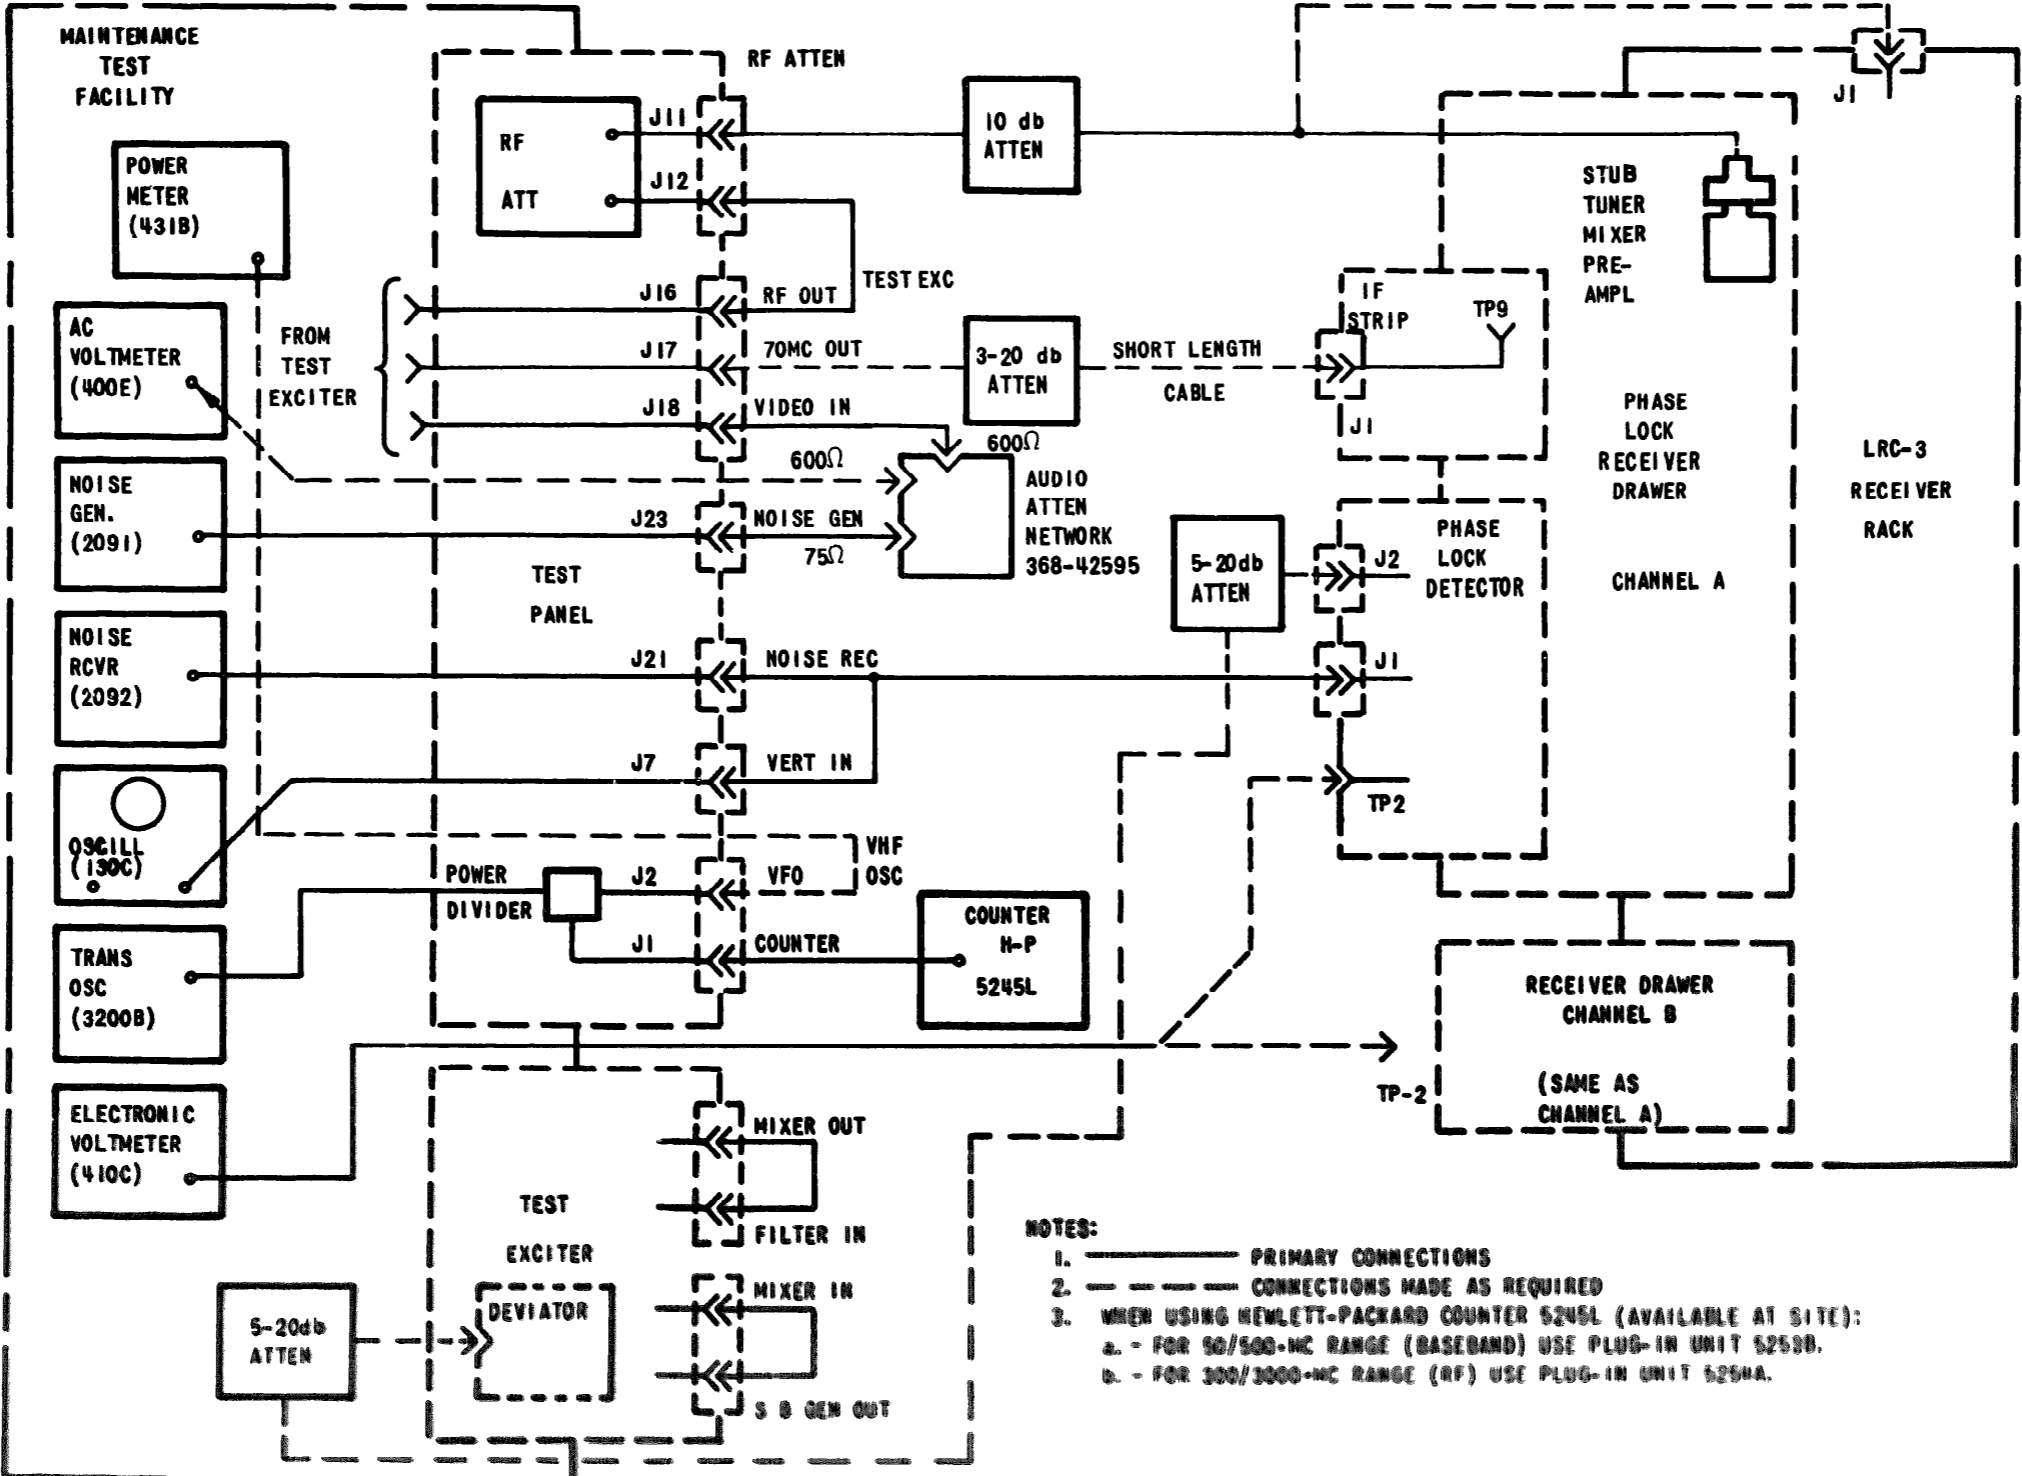

Figure 3-8. Receiver Intermodulation Distortion Test, and Limiter-Discriminator and Phase Lock Intermodulation Test. Cable Connections
- e. **Connect test cables between the Maintenance Test Facility and the LRC-3 receiver drawer as shown in figure 3-8.**
3. 3. 3. 4. 1. 3 Receiver Limiter-Discriminator and Phase Lock Inter-modulation Test. - Refer to figure 3-8 for the proper connections needed to test the LRC-3 receiver phase lock and discriminator chassis.
If the required r-f output level cannot be obtained, disconnect the deviator r-f output plug, P1, from the sideband load and connect to a Kay attenuator pad with a short length of coaxial cable. Insert approximately 15 db attenuation in this pad and connect the output from this pad through a length of coaxial cable to pad connected to the phase lock or limiter-discriminator chassis with another short length of coaxial cable as shown in figure 3-8.